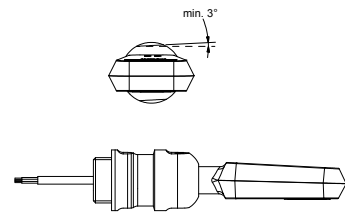

Fig. 3: pms sensor D12-adapter shaft with sensor screw connection BF-pms/A1, all surfaces must be inclined at least 3°.
- If the sensor is cleaned wet during operation, all surfaces must be inclined at least 3° from the horizontal alignment so that the cleaning agents can run off completely (see figure 3).